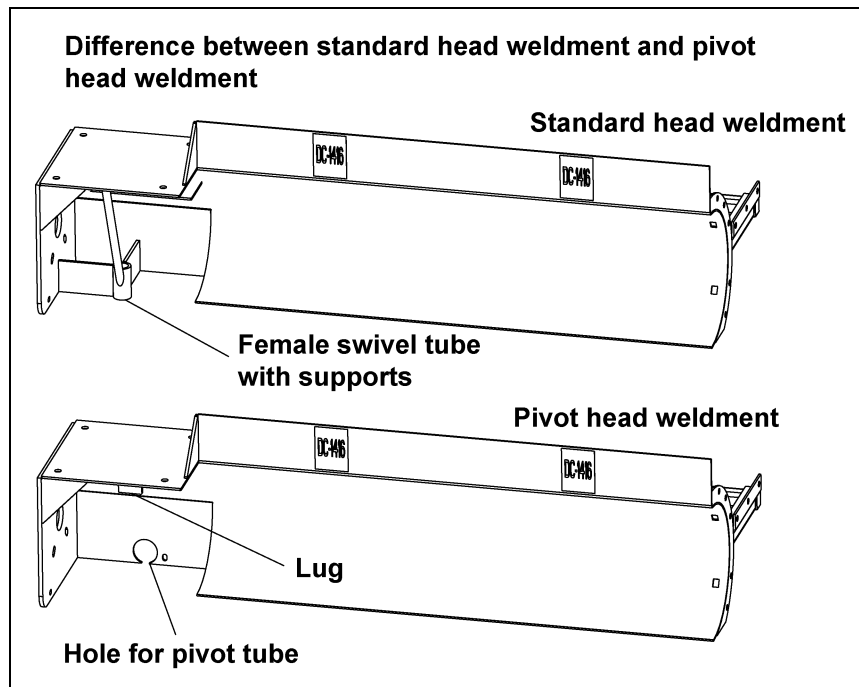

Figure 11B
The following Figure 11B is of a 16" pivot sweep head end weldment and a 16" standard sweep head end weldment. There are very few differences between the two. The standard head weldment has the female pivot tube welded to the drive end of the unit. Two (2) plate braces and one pipe brace support this tube. The pivot head weldment has a lug welded to the underside of the motor mount plate. This lug is for attachment of the sweep pivot rod assembly. There is a large hole in the rear plate for the center support tube assembly to pass through. Next to the large hole is a slot that the center support mounts to.